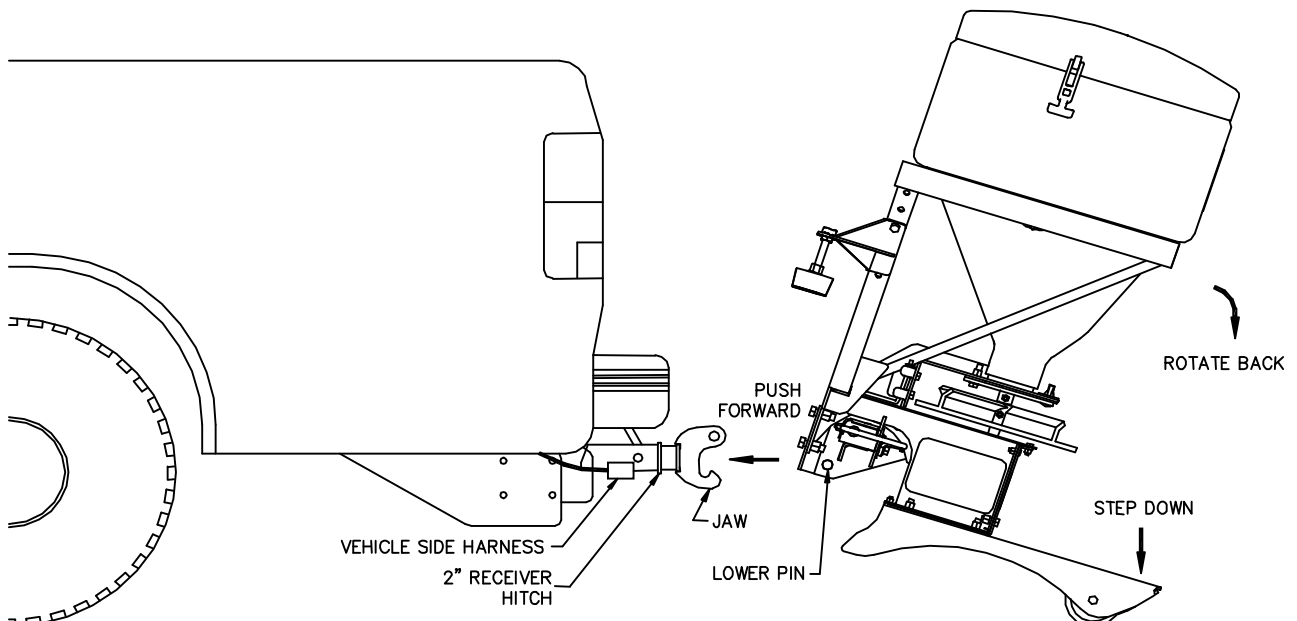

Figure 10. Spreader Attachment (RT3 Option Kit Installed)
- 5) Grip Spreader firmly, step on Leg Assembly and rotate back until Bottom Pin is high enough to clear RT3 Hitch Jaw (See Figure 10).
- 6) Push Spreader forward and seat Lower Pin in Jaw of RT3 Hitch (See Figure 10).